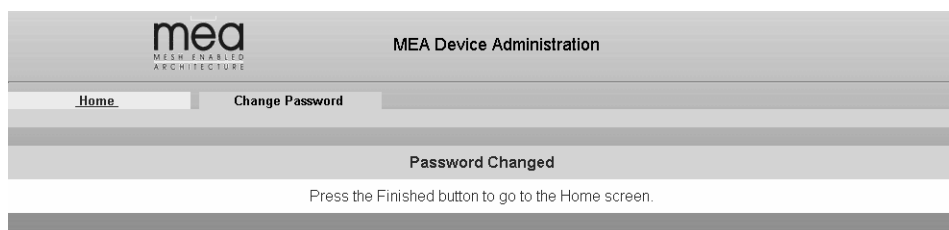

Figure 17. MEA Device Administration Password Changed Window
4. Click on the “**Submit**” button. The browser will display a message that confirms the password change as shown in Figure 17.